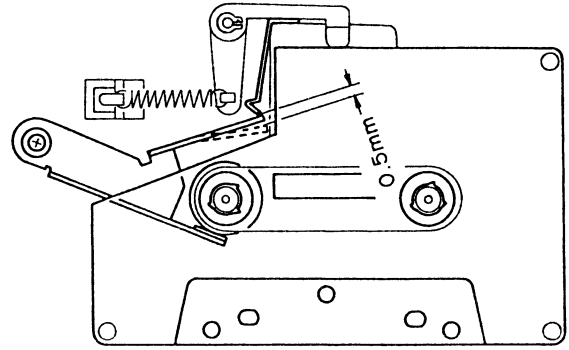
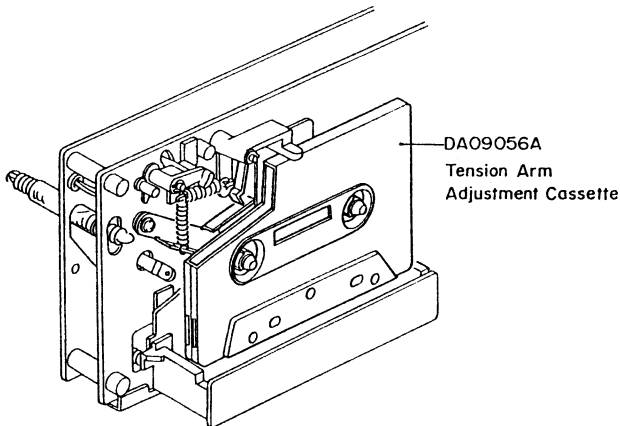

Fig. 4.19
Fig. 4.18
Refer to Figs. 4.18 – 4.21.
- (1) Load a Tension Arm Adjustment Cassette (DA 09056A) in the N-1000ZXL referring to Fig. 4.18.
- (2) Set the N-1000ZXL in Play mode.
- (3) Bend the Back Tension Arm with pliers so that the gap between the Cassette Holding Spring assembled with the Head Base Ass'y and the Back Tension Arm becomes 0.5 mm as shown in Fig. 4.19. Do not bend the pointed end of the Back Tension Arm.
- (4) Set the N-1000ZXL in Stop mode, and remove the Tension Arm Adjustment Cassette (DA09056A), then set the N-1000ZXL in Cue mode.